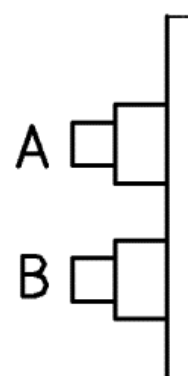

Fig. 4
11. Push the PCB board switch A for one second (Fig. 4).
14. Push the PC board switch B for one second (Fig. 4).